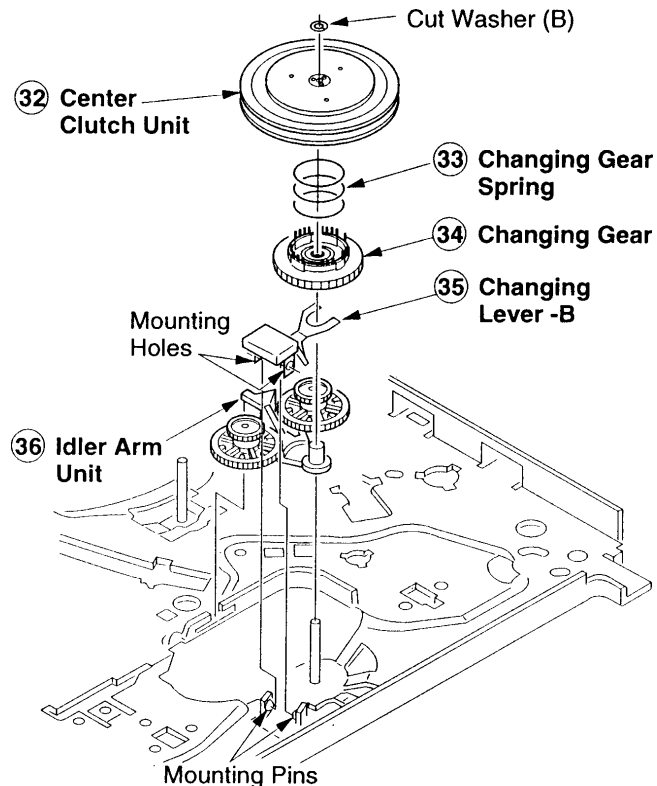

Fig. 23 - Center Clutch Unit/Changing Gear Spring/Changing Gear/Changing Lever-B/Idler Arm Unit Removal
(Figs. 23, 24)
1. Remove one (1) cut washer (B) and then remove the center clutch unit, changing gear spring and the changing gear (Fig. 23).
2. Lift the changing lever-B from the two (2) pins.